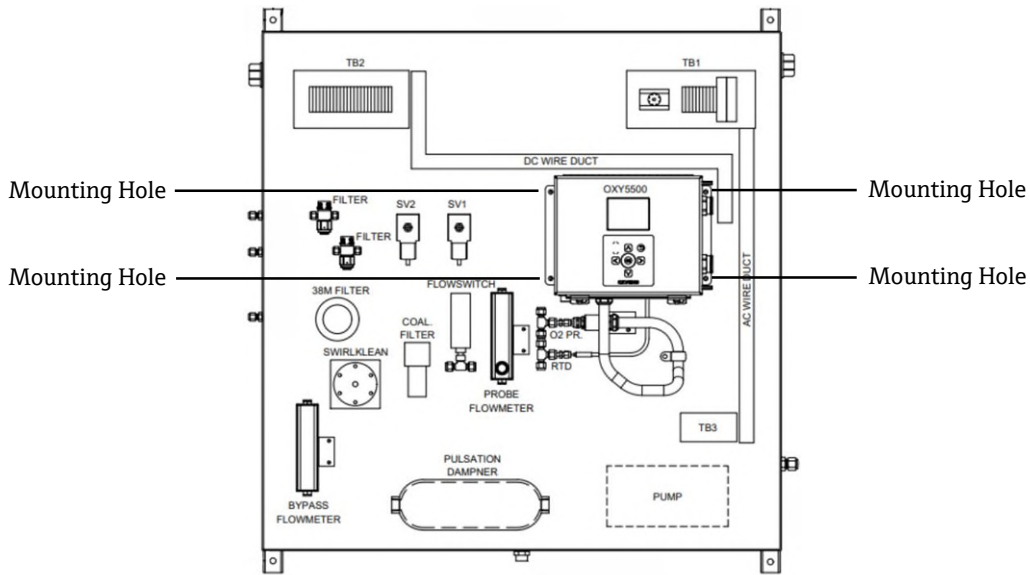

Figure 7. Analyzer mounting locations
2. Locate the mounting holes on your unit. Refer to Figure 7 and the system drawings in Appendix A → .